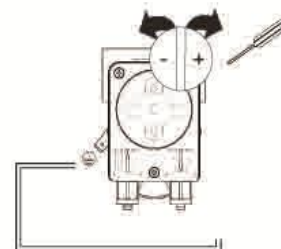

Fig.9
- 2- Open by screwing the needle valve of the dispenser clockwise until the necessary quantity has been achieved. (Fig.9)